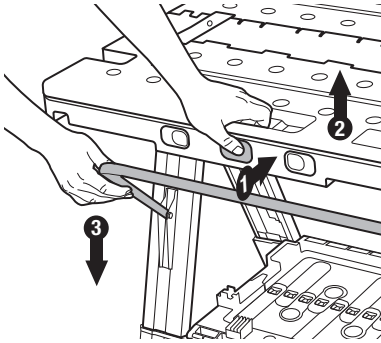

Figure 14
1. Put down the supporting bar as shown in (Figure 14). Push the middle button on the tabletop, lift up the tabletop and pull down the supporting bar.